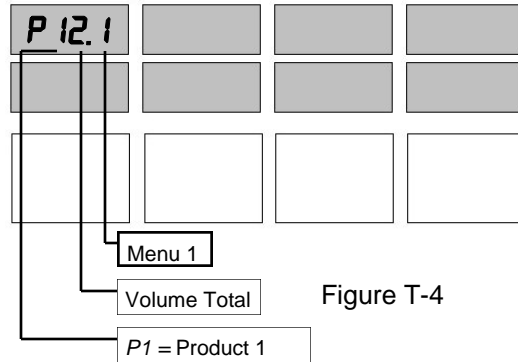

Figure T-4
1. Press the ↓ button. (See Figure T-3.) The main display indicates Hose A volume totals. See Figure T-4.
The main display shows the total volume amount. For example: If the total volume amount for the dispenser were 234,567.890 gallons, the display would appear as in Figure T-4. These totals are accumulative and cannot be changed. The dispenser can carry the volume amount to three decimal places for gallons and two decimal places for liters.
2. Tap the magnet over the (Gallons, Liters) print again to read the Volume totals for Product 1. The displays appear as in Figure T-4 with P12.1 showing in the price per gallon window to indicate the first Volume total for Product 1.